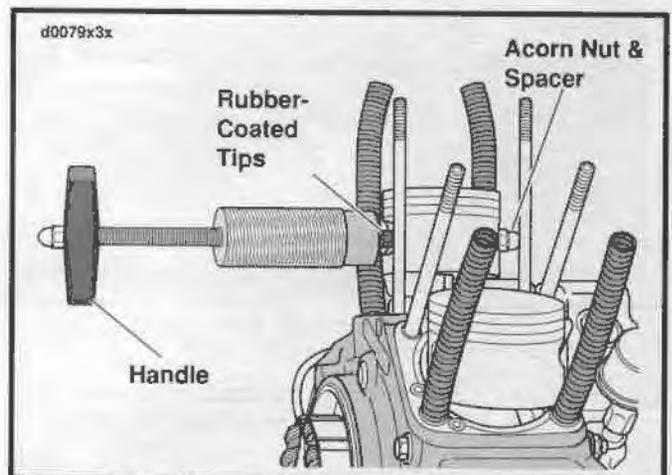

Figure 3-33. Piston Pin Remover/Installer Part No. HD-42320
- See Figure 3-33. If piston pin is difficult to remove, use PISTON PIN REMOVER/INSTALLER, Part No. HD-42320 as follows:
- See Figure 3-33. Install the piston pin retaining rings with the PISTON PIN RETAINING RING INSTALLER, Part No. HD-34623B. Be sure the ring groove is clean and that the ring is fully seated in the groove with the gap away from the slot at the bottom.